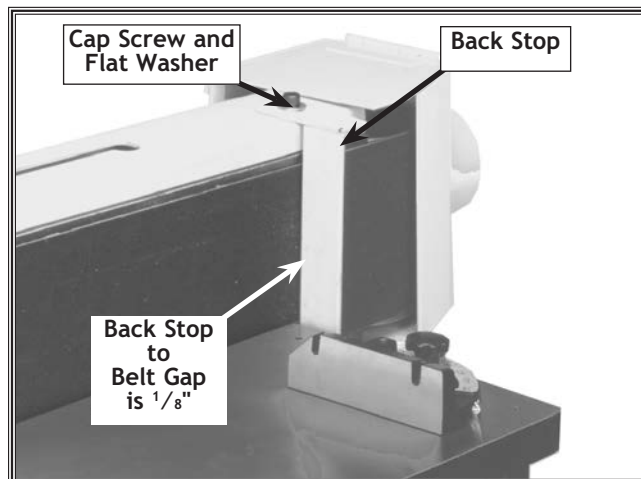

Figure 26. The back stop gap.
1. Position the back stop and install the cap screw and washer finger tight. See Figure 26.
2. Position the back stop no closer or no farther than $\frac{1}{8}$ " to the surface of the sanding belt. See Figure 26.